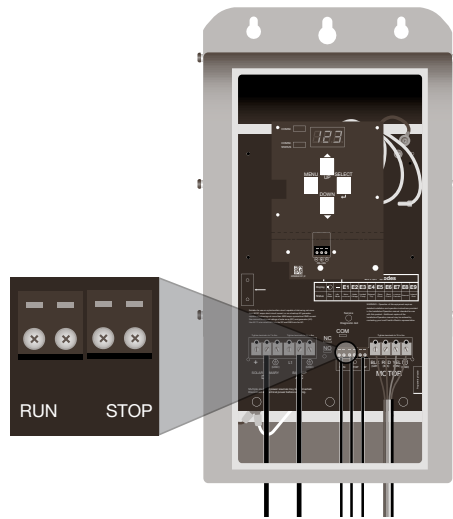

Figure 9: Control Switch Wiring Connection
2. Connect the cables from the “RUN” control switch to the Terminal Block labeled “RUN” (Figure 9).